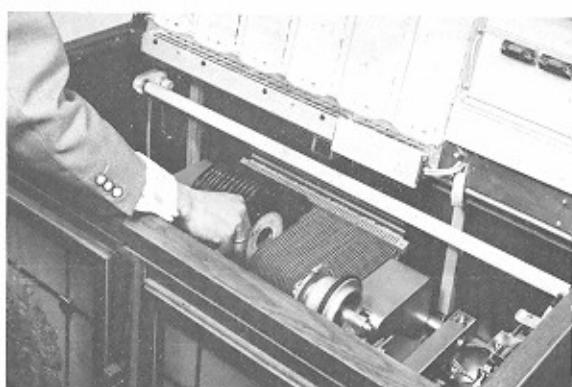

Fig. 3
- 12 Insert records into record magazine (figure 3) in the order of the title strips, the upper lettering of the magazine marking to the left. Move carriage by pushing it by hand to any desired position.